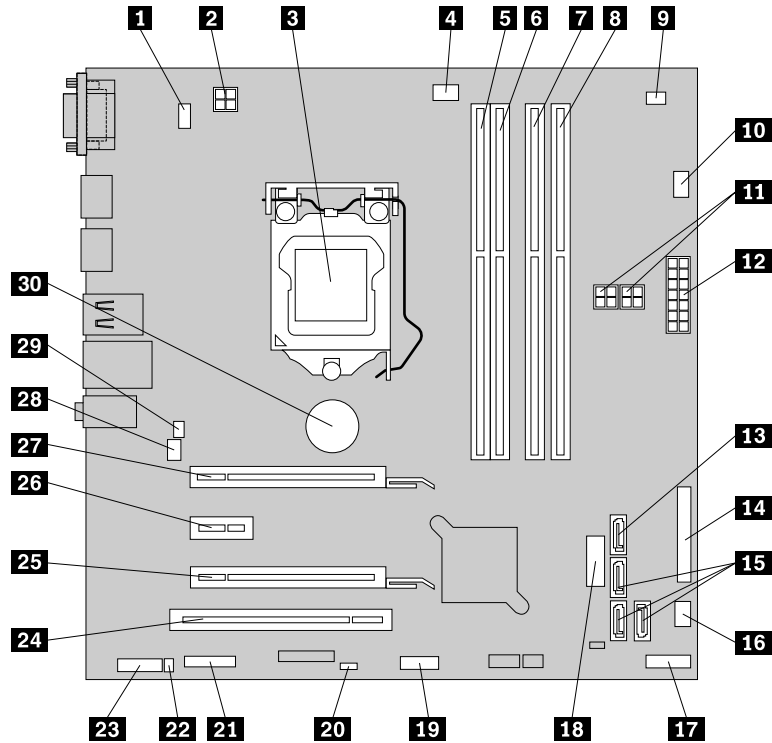

Figure 5. ThinkCentre M93/p system board part locations
- Figure 5 “ThinkCentre M93/p system board part locations” on page 15 shows the locations of the parts on the system board of the ThinkCentre M93/p computer.